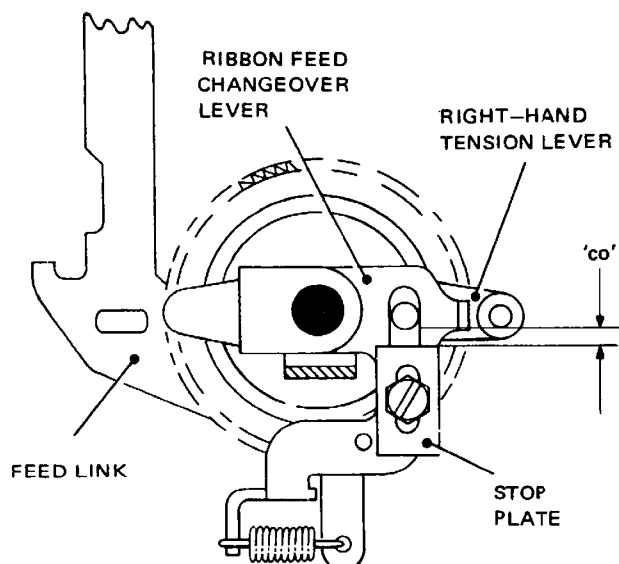

Fig. 4.100 RIBBON CHANGEOVER STOP
- 110.2 To adjust, with the machine at rest and the ribbon free of tension, loosen the stop-plate securing screw, Fig. 4.100, set the stop plate for a gap between stop plate and tension lever pin (dimension 'co') of 0.015–0.030 inch, and tighten the screw. (An increase in the gap makes operation less prone to early changeover, and a decrease makes operation less hesitant.)